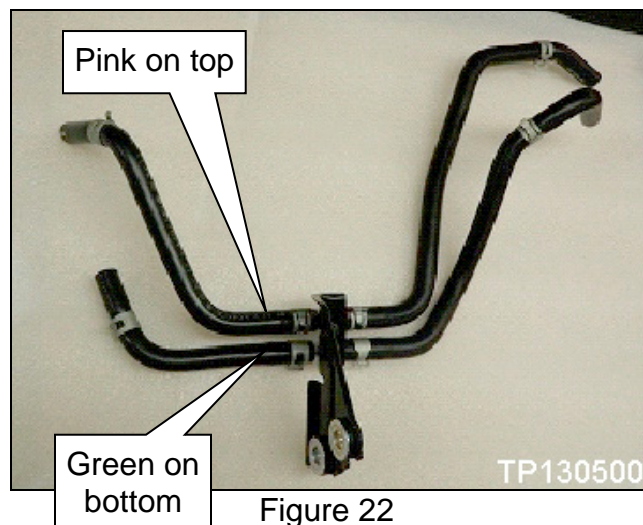

Figure 22
3. Assemble the Hoses to the Bracket as shown in Figure 22.